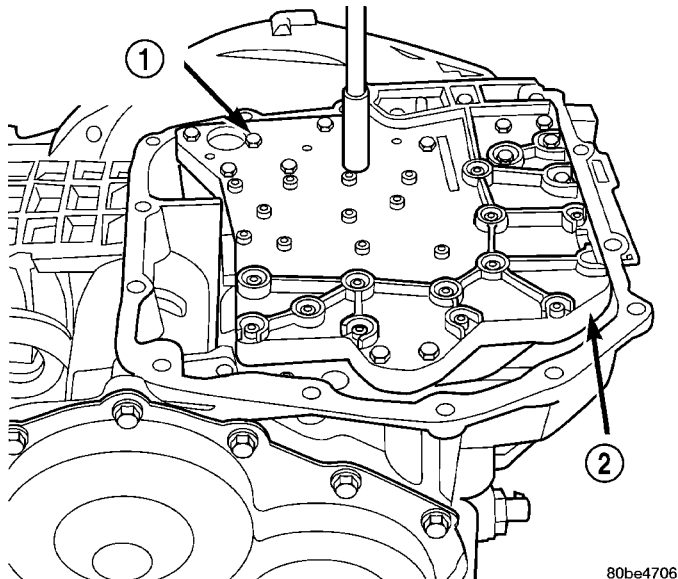

Fig. 154 Install Valve Body-to-Case Bolts
(64) Install and torque valve body-to-case bolts to 12 N·m (105 in. lbs.) (Fig. 154).